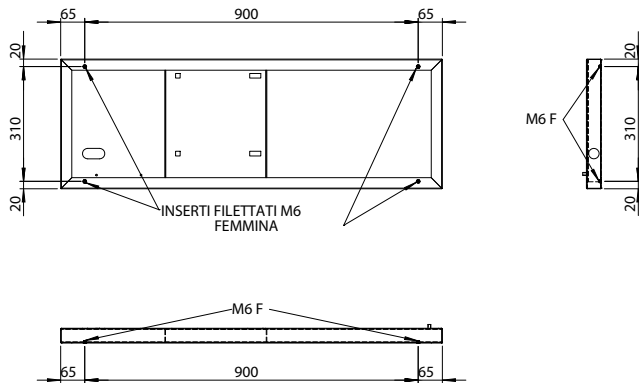

Fig. 1.i
- cabinet compliant with seismic testing standards IEC 60068-2-6, IEC 60068-2-57, IEC 60068-2-64, ISO2041. To ensure compliance with the above-mentioned standards, the cabinet must be anchored to the floor using the threaded holes provided (M6 female thread), as shown in Fig. 1.i.